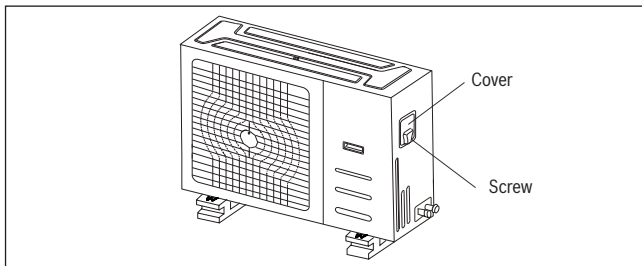

Fig. 36.
2. Remove the electric cover of the outdoor unit. If there is no cover on the outdoor unit, disassemble the bolts from the maintenance board and remove the protection board. (See Fig. 36)